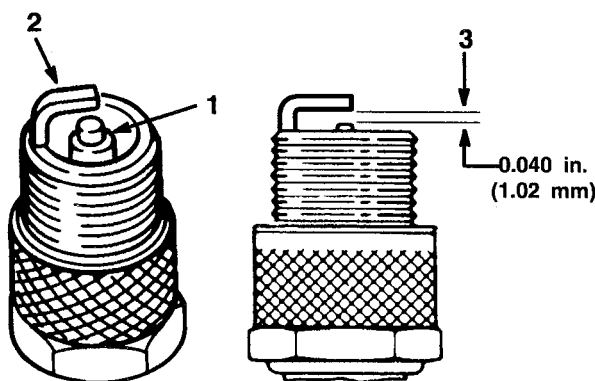

Figure 28
1. Look at the center of the spark plug(s) (Fig. 28). If you see light brown or gray on the insulator, the engine is operating properly. A black coating on the insulator usually means the air cleaner is dirty.
2. Check the gap between the center and side electrodes (Fig. 28). Bend the side electrode (Fig. 28) if the gap is not correct.